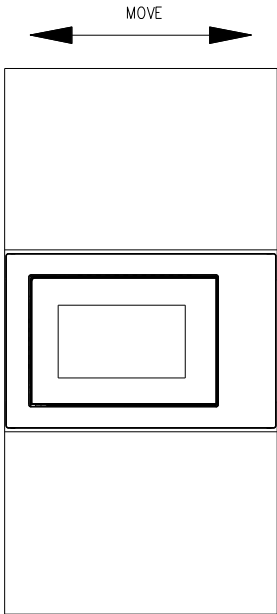

Fig.3
c) Slide the microwave oven evenly into the cabinet, keeping it centered. (Fig.3)